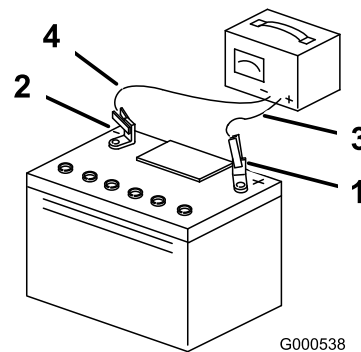

Figure 53
5. When the battery is fully charged, unplug the charger from the electrical outlet, and disconnect the charger leads from the battery posts (Figure 53).